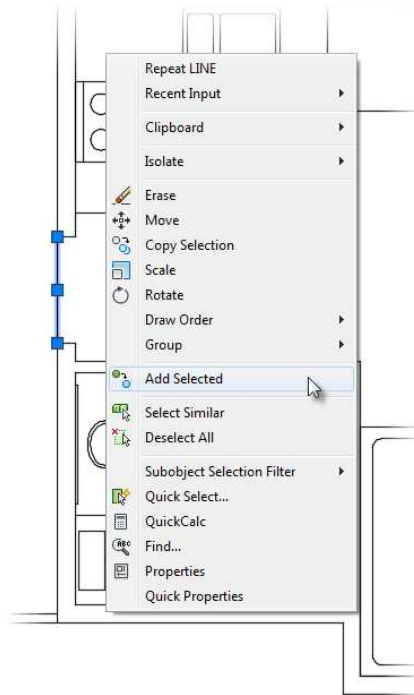

FIGURE 6.37: Choosing the Add Selected function from the right-click menu after selecting the header line
11. Select the header line you just drew and right-click. Choose the Add Selected option, as shown in Figure 6.37, to create another line with the same properties as the original line you drew.